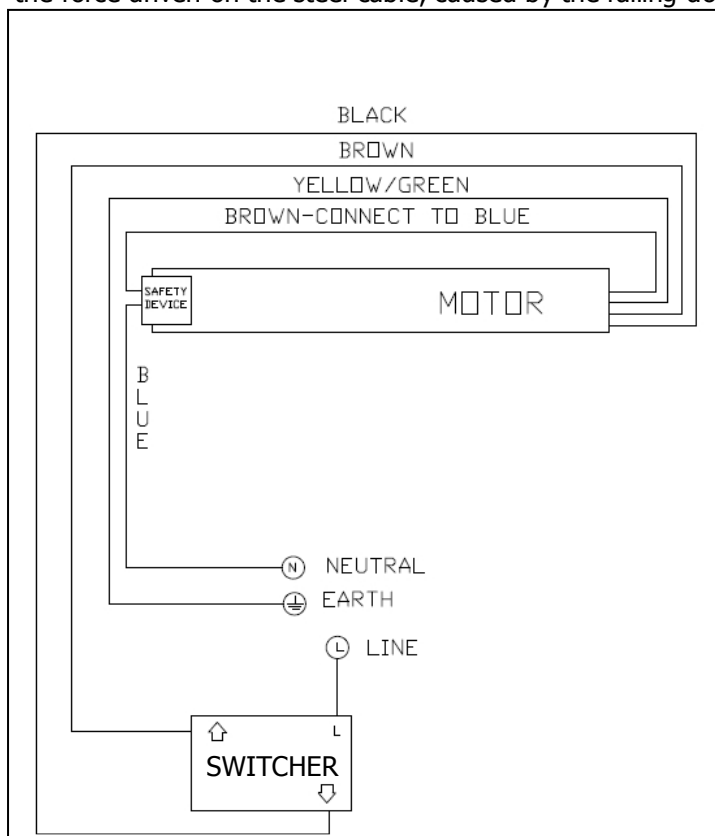
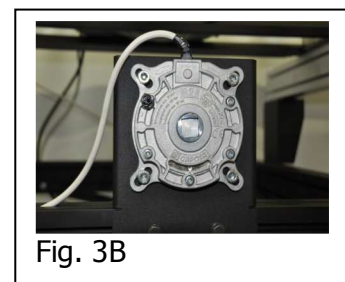

Fig. 3A
Fig. 3B
- Once you have mounted the lift on the ceiling, connect it to power supply following the scheme shown on Fig. 3A; the lift is supplied with a safety mechanism (Fig. 3B) with a double security system: first - this is a mechanic safety system that prevents the steel cable to unroll when the speed has reached 50 rpm, second – this is an electrical security system that forbids the electrical connection of the motor if the force driven on the steel cable, caused by the falling down, is more than 503 Nm.